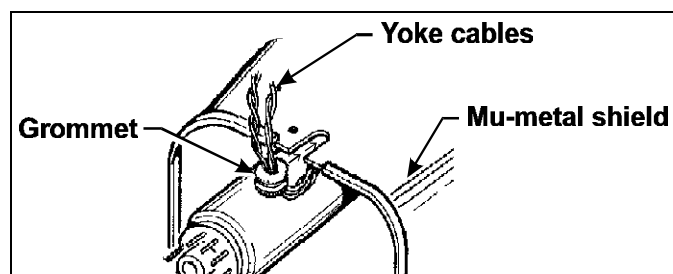

Figure 5-21. Installing the yoke cable grommet
6. Press the yoke cable grommet into its hole on the Mu-metal shield (Figure 5-21).